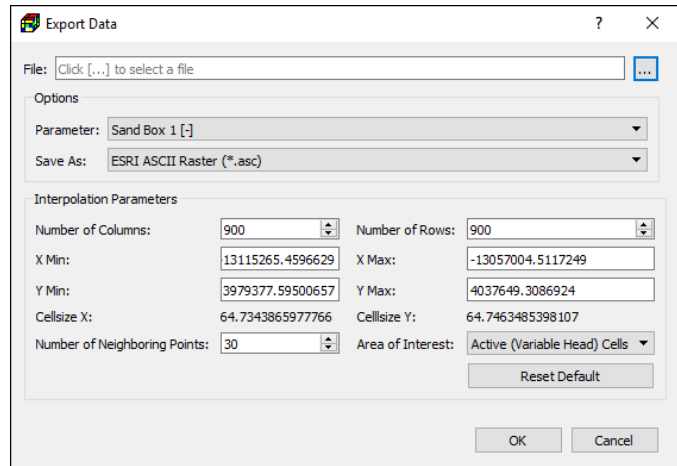

Figure 48. The Export Data dialog box
7. **Tools > Data > Export:** This menu item opens the Export Data dialog box (Figure 48).